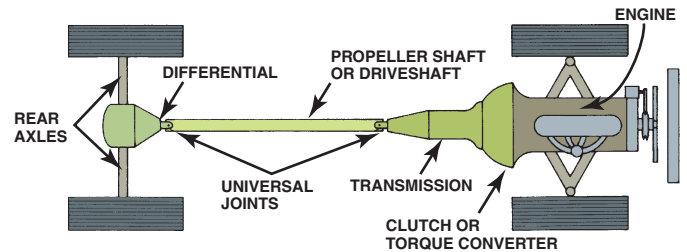

FIGURE 10-9 A longitudinally mounted engine drives the rear wheels through a transmission, driveshaft, and differential assembly.
- **Longitudinal and transverse mounting.** Engines may be mounted either parallel with the length of the vehicle (longitudinally) or crosswise (transversely). ● **SEE FIGURES 10-9 AND 10-10.** The same engine may be mounted in various vehicles in either direction.